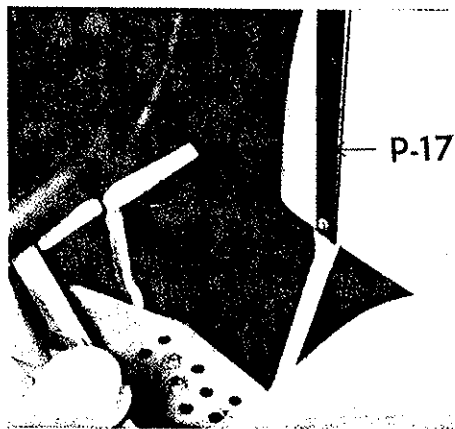

Figure 3
3. Remove the bolt from front of right fender and replace with  $\frac{3}{8}$ " x  $1 \frac{1}{2}$ " bolt furnished with Weather Brake. Attach the P-17 yoke support or right upright to fender as shown in Figures 3 and 5. Be sure the angle at top of P-17 points toward the rear of tractor. Leave bolt loose.